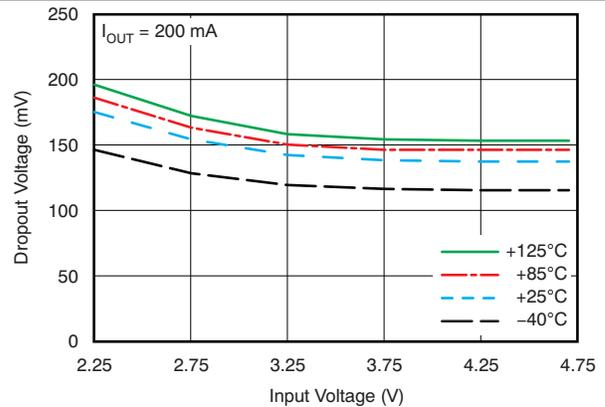

Figure 4. Dropout Voltage vs Input Voltage
• Added footnote (1).....	1
- Changed Figure 4 title 7